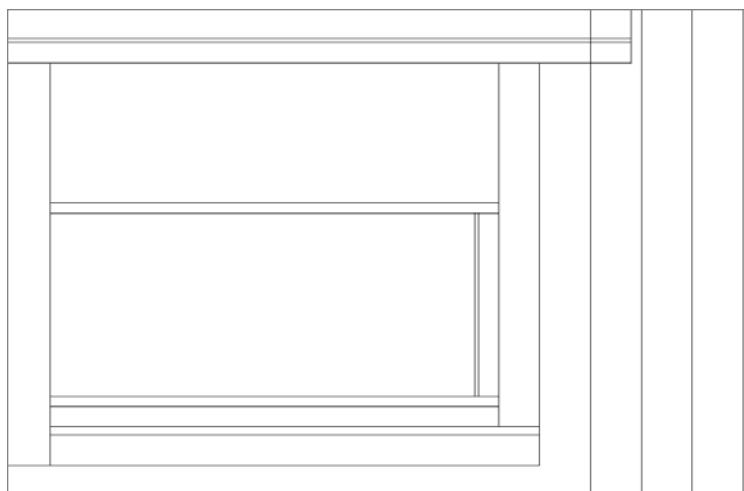

FIGURE 10.22 Draw the first railing post.
2. Trim these two lines back to the lower edge of the upper rail and to the upper edge of the lower rail (see Figure 10.22).